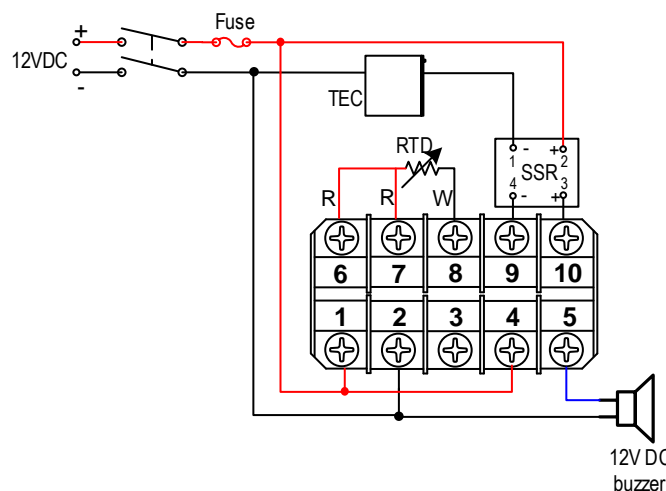

Figure 12. Typical wiring for high precision control set up. It shows how the RTD sensor, and SSR should be wired.
a. Wiring diagram, See Figure 12.